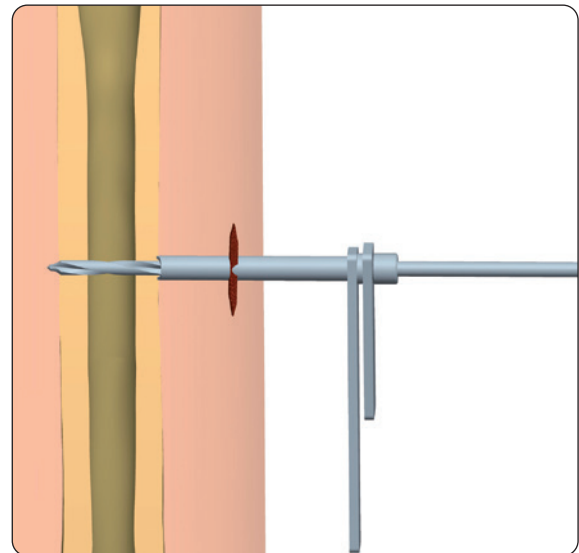

Fig. 5
5) If a 6mm thread diameter screw is used, insert the 4.8mm drill guide into the screw guide and introduce 4.8mm drill bit (**Fig. 5**). Drill at 500-600 rpm through the first cortex, checking that the drill bit is at right angles to the bone. The force applied to the drill should be firm and the drilling time as short as possible to avoid thermal damage. Once the second cortex has been reached, reduce the drilling speed and continue through the bone. Ensure that the drill bit completely penetrates the second cortex.